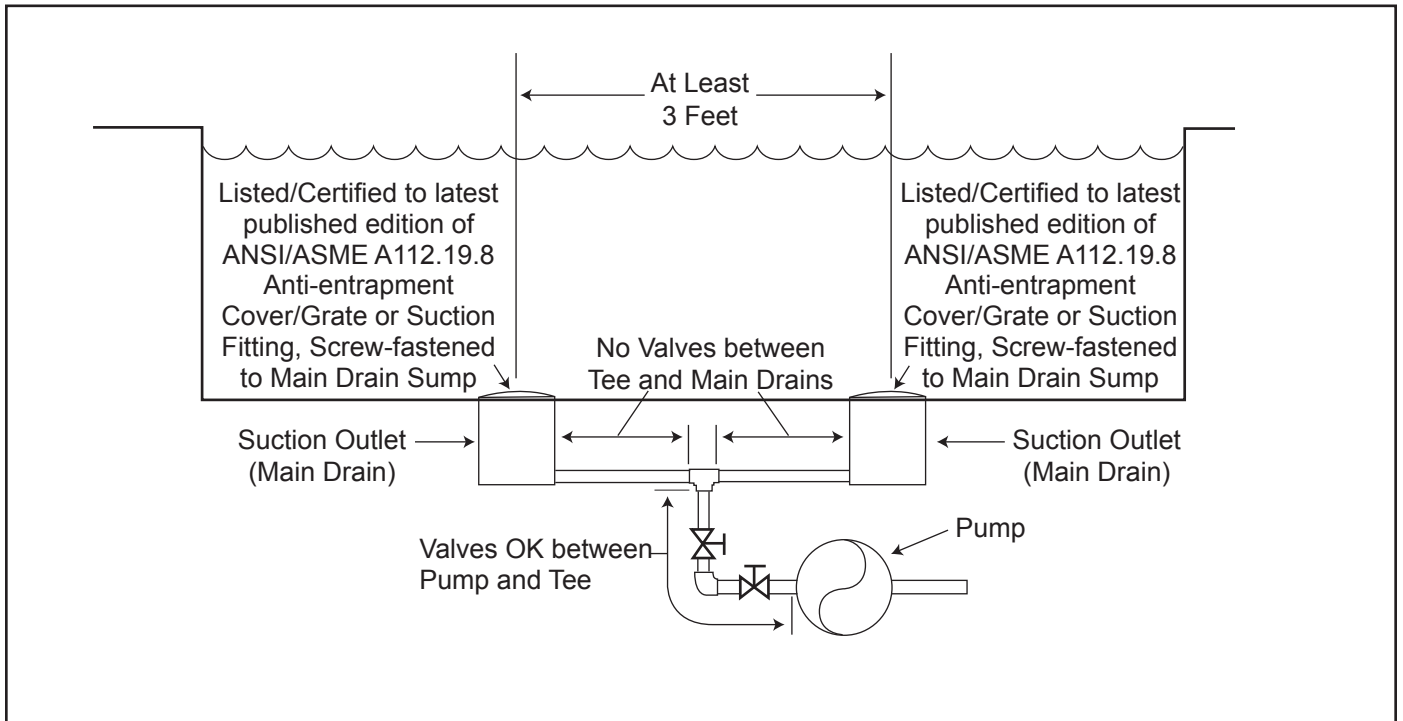

Figure 1. Number of Suction Outlets Per Pump
**Number of Suction Outlets Per Pump** - Provide at least two (2) main drains, with covers, as suction outlets for each circulating pump suction line. The centers of the main drains (suction outlets) on any one (1) suction line must be at least 3 feet apart, center to center. See Figure 1 on page 7.
The system **must** be built to include at least two (2) suction outlets (drains) connected to the pump whenever the pump is running. However, if two (2) main drains run into a single suction line, the single suction line may be equipped with a valve that will shut off both main drains from the pump. The system shall be constructed such that it shall not allow for separate or independent shutoff or isolation of each drain. See Figure 1 on page 7.